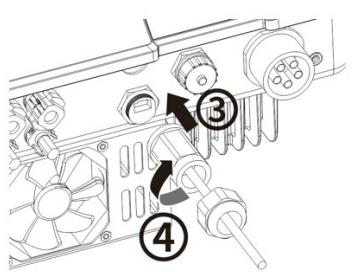

Fig. 36. Insert the network cable
3. Insert network connector into the communication connection of the device (Pos. 3/5) and tighten the thread sleeve. Then tighten the forcing nut (Pos. 4/6) (see Fig. 36).